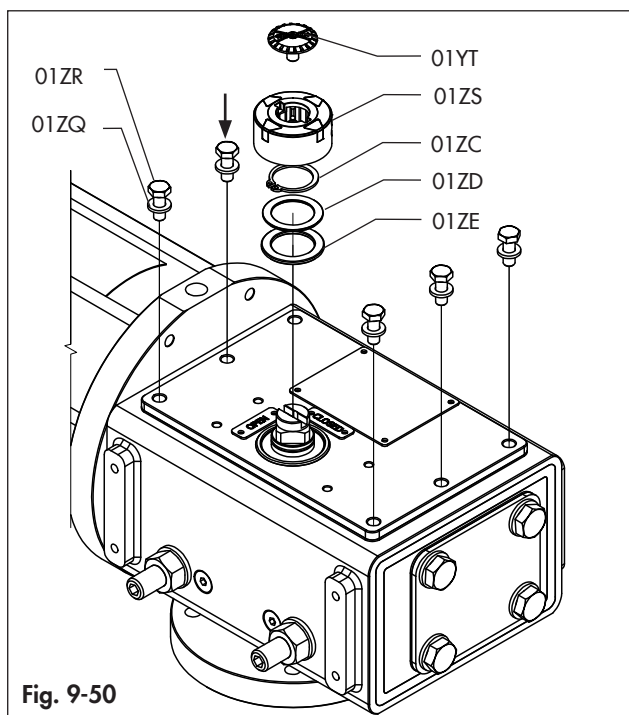

Fig. 9-50
- Apply the thread locker Loxeal 83•21 or equivalent and tighten the screws (01ZR) and washers (01ZQ). (Fig. 9-50).
- Add the upper thrust bearing (01ZE), the washer (01ZD) and the spring clip (01ZC) on the drive shaft. In case of any difficulty when placing the spring clip it is possible to push upwards the drive shaft by applying a light force from the bottom (Fig. 9-50).
- Add the position indicator (01ZS) and (01YT) on the drive shaft by keeping attention on the orientation. (Fig. 9-50).